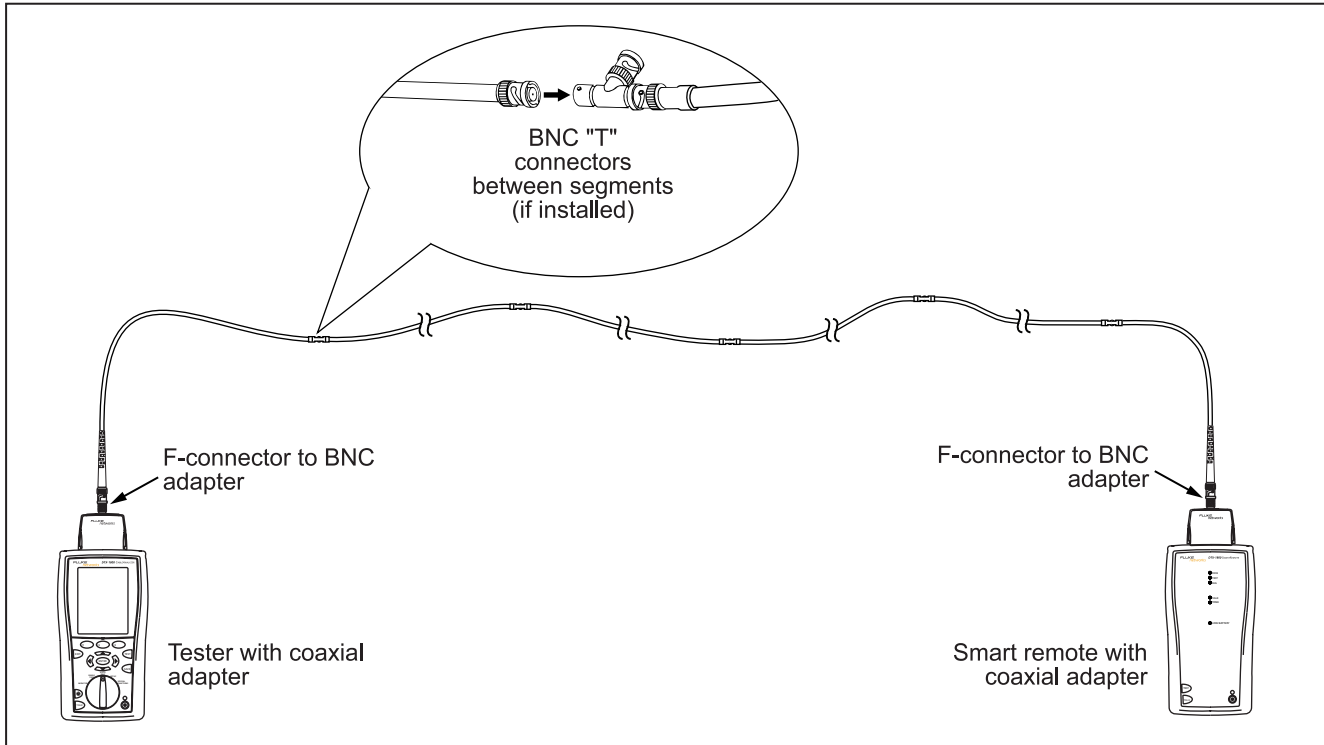

Figure 18. Coaxial Network Cabling Test Connections
- 3 Turn the rotary switch to **AUTOTEST** and turn on the smart remote. Connect to the cabling, as shown in Figure 18 or 19.